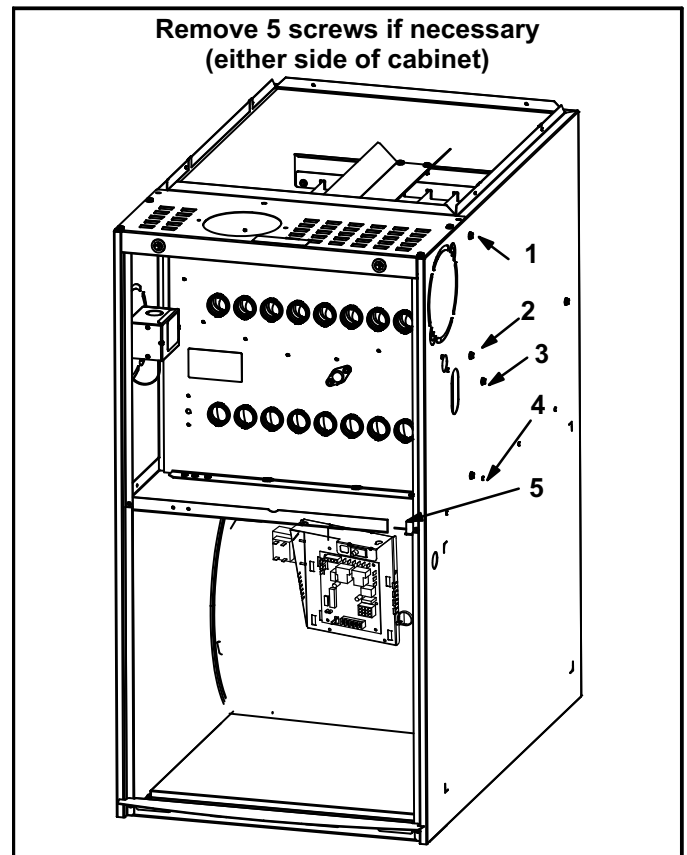

FIGURE 38
- 10 - Remove heat exchanger. It may be necessary to spread cabinet side to allow more room. If so, remove five screws from the left side or right side of cabinet. See figure 38.